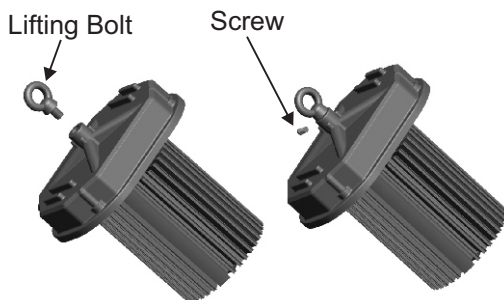

Fig.1
1. Tight the lifting bolt on top of the driver box, then tighten screws to lock the lifting bolt (Fig.1)